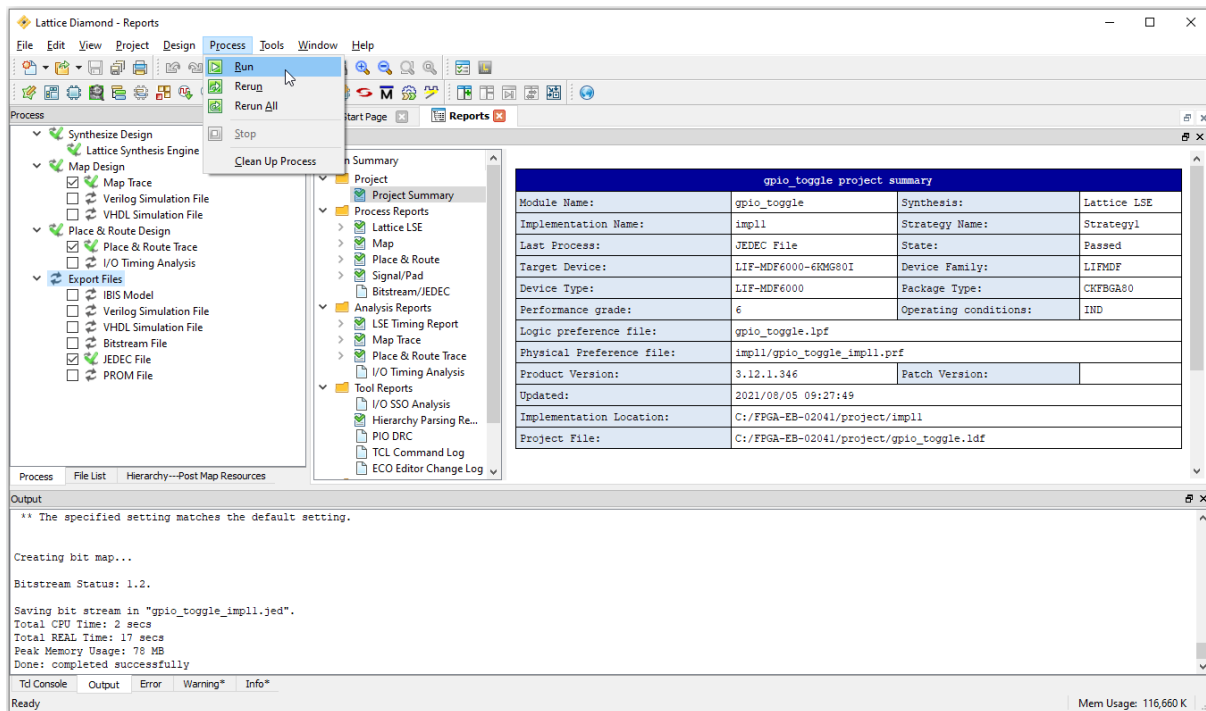

Figure 4.3. Diamond Software – Run Processes
- Click **Process > Run**. Green checkmarks appear on each successfully completed step, including the generation of the JEDEC file, as shown in Figure 4.3.